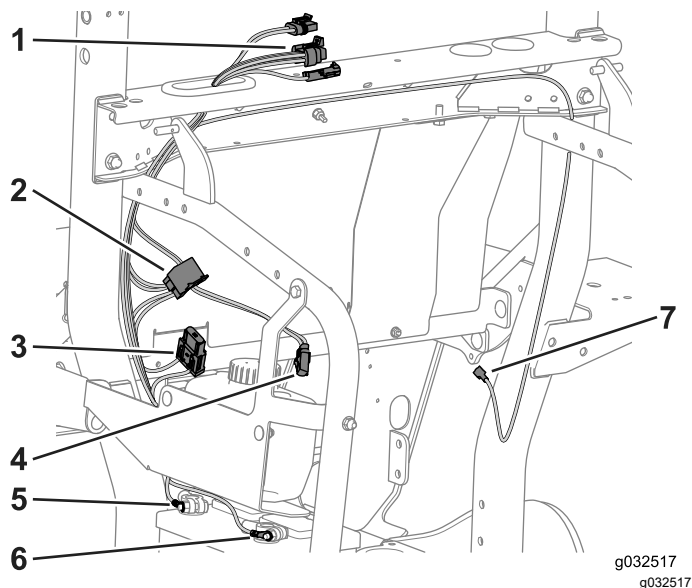

Figure 38
1. Route the 3 cab connectors through the grommet (Figure 38).
2. Route the auxiliary-power wire across the frame support, down along the ROPS tube, and toward the operator controls (Figure 38).
1. Route the 10-gauge red and black wires along the ROPS tube on the left side of the frame and toward the battery (Figure 38).